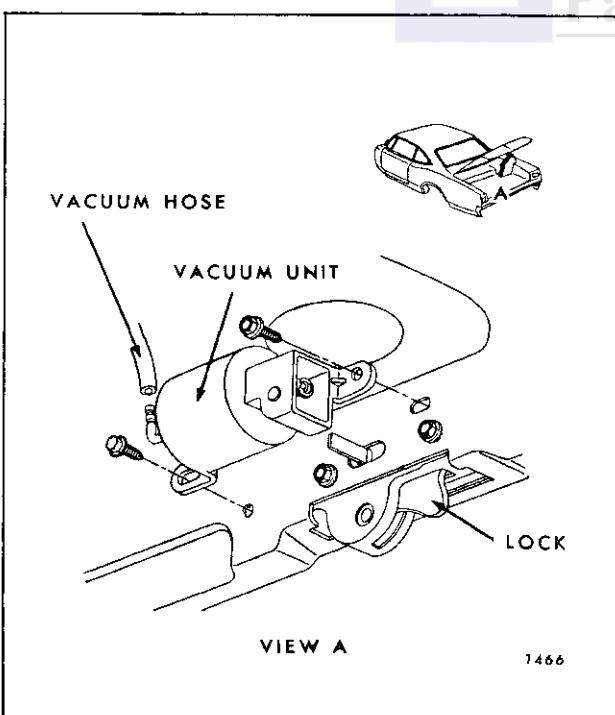

Fig. 8-23—Rear Compartment Lid Vacuum Release Unit — Exposed Type
2. Disconnect vacuum hose from vacuum release unit. Remove attaching bolts shown in illustration and remove vacuum unit (Figs. 8-23 and 8-24 for typical illustrations).